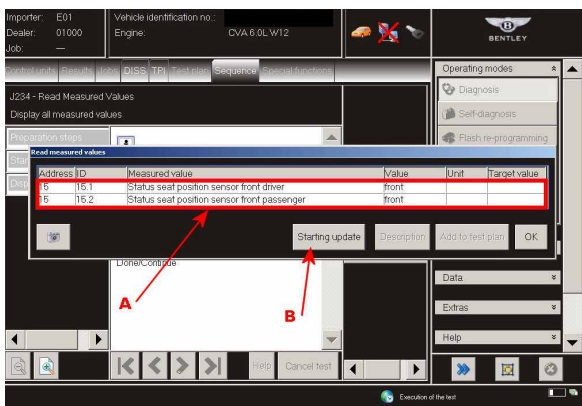

Figure 38
2. Referring to Figure 38 (Point A) use the seat positioning control switch (located on the outer side of the seat base) manoeuvre the applicable seat/s forward until the end of travel